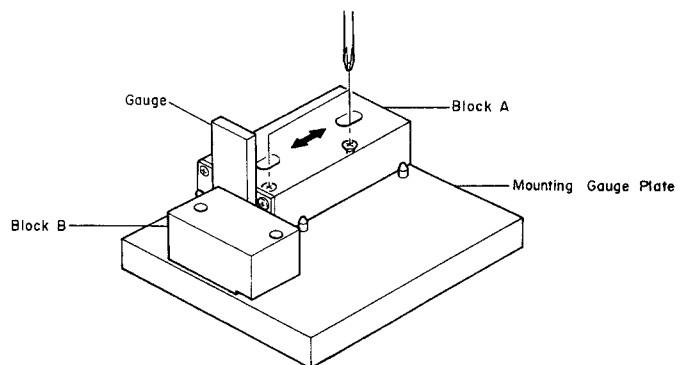
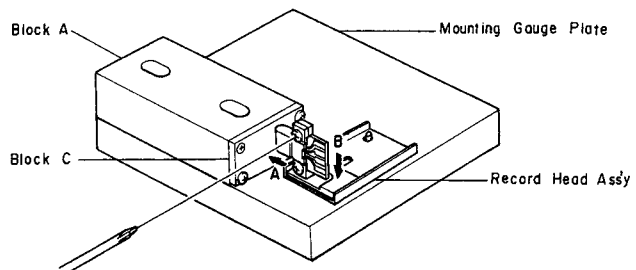

Fig. 4.17
Fig. 4.18
Refer to Figs. 4.17 and 4.18.
- (1) Check the accuracy of the record head stroke.
- (2) Remove Head Mount Base Ass'y referring to item 2.21.
- (3) Remove the record head assembly.
- (4) Adjustment of Record Head Mounting Gauge M-9048 (DA09048A)
- (c) As shown in Fig. 4.17, hold the Gauges (3.05 mm and 0.1 mm thickness) between the Block A and Block B, and fix the Block A with screws, pushing the Block A to the 2 guide pins.
- (5) Remove the Block B from the Mounting Gauge Plate.
- (6) As shown in Fig. 4.18, mount the R-8L record head assembly onto the Mounting Gauge Plate, then check the location of the R-8L record head surface. (If record head contacts to the Block C, loosen 2 pcs. of screws that assemble record head and record head plate, then place the R-8L record head assembly onto the Plate.)
- (7) Remove the R-8L record head assembly from the Mounting Gauge Plate.
- (8) Readjustment of Record Head Mounting Gauge M-9048 (DA09048A)
- (c) As shown in Fig. 4.17, hold the Gauges (3.05 mm and either one of 0.05, 0.15, 0.2, 0.25, 0.3 or 0.35 mm thickness) between the Block A and Block B, and fix the Block A with screws, pushing the Block A to the 2 guide pins.
- (9) Remove the Block B from the Mounting Gauge Plate.
- (10) Mount the R-8L record head assembly onto the Mounting Gauge Plate.
- (11) As shown in Fig. 4.18, loosen 2 pcs. of screws that assemble record head and record head plate. As the location of the Block A is secured by the item (8)-(c), push the record head to the directions A and B, then tighten 2 pcs. of screws.
- (12) Check to insure freedom from gap between the Block C and record head surface, then tighten the 2 pcs. of screws on the record head assembly with lock tight paint.
- (13) Remove the R-8L record head assembly from the Mounting Gauge Plate.
- (14) Assemble the record head assembly to the head mount base.
- (15) Assemble the head mount base assembly to the mechanism assembly.
- (16) Check the record head stroke. If the above are inaccurate, items (1) through (16) will have to be repeated till satisfactory results are obtained.